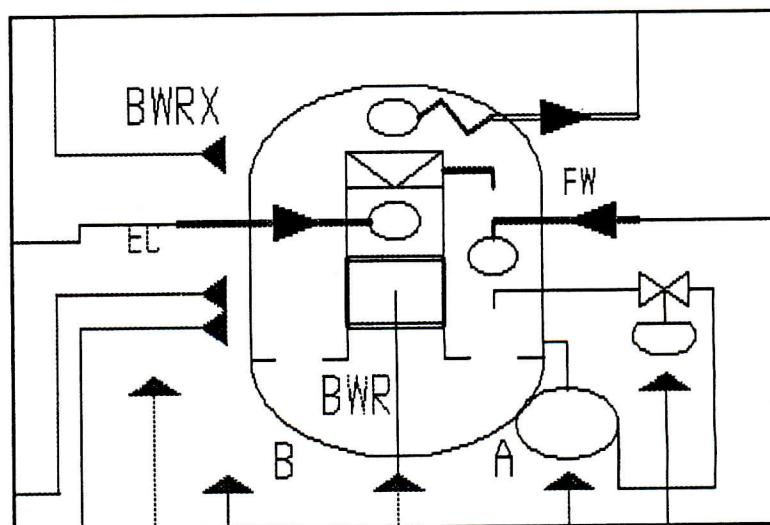

Figure 1: BWRX Icon
- o The BWRX icon has been improved to show more detail and it now includes ports for measurements and control inputs (figure 1). Small circles were added to the icon to indicate pressure calculation (storage type port) and resistor symbols were added to indicate flow calculation (resistive type port). This makes it more convenient to follow the interconnection rules (i.e., R-C, C-R; not R-R, C-C) while drawing interconnection diagrams in MMS-EASE+.